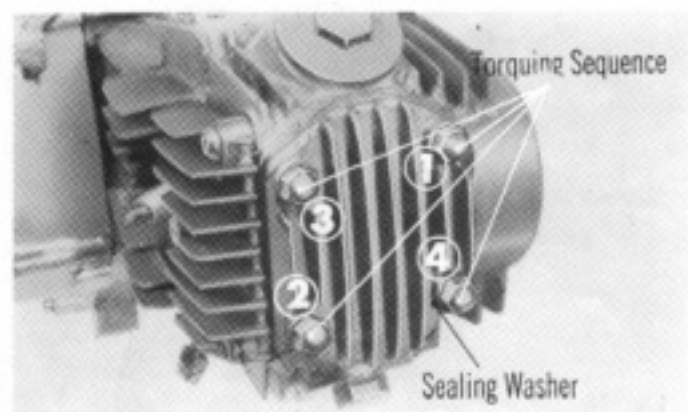

Fig. 30
3. The position of the cylinder head nuts is ①, ②, and ③ for the blind nut, and ④ for the plain nut. Do not omit the sealing washer on the ④ position (Fig. 30).
4. When torquing down the cylinder head, tighten the nuts uniformly in a diagonal sequence as shown in the Fig. 30 and torque to the final specified torque value of 6.5-9 ft-lb (90-120 kg-cm).